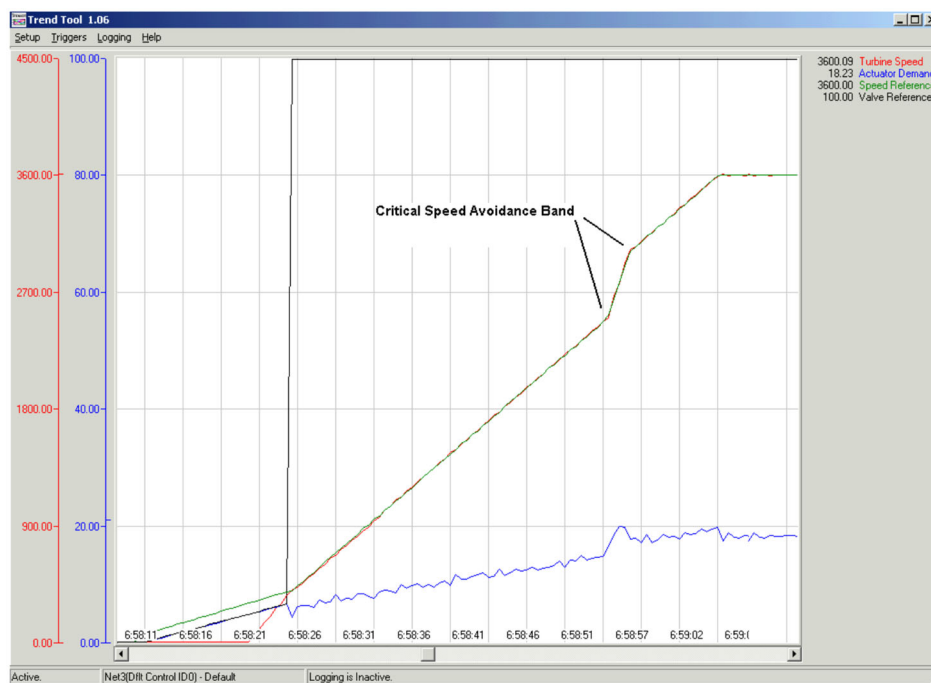

Figure 4-5. Critical Speed Avoidance Band
- In many turbines, it is desirable to avoid certain speeds or speed ranges (or pass through them as quickly as possible) due to excessive turbine vibration or other factors. During programming, one critical speed avoidance band may be selected. This band may be any speed range that is less than the minimum governor speed setting. Within a critical speed range, the 2301E-ST moves the speed setpoint at the critical speed rate programmed and does not allow the speed setpoint to stop within the critical speed avoidance band. If the turbine is accelerating through a critical avoidance band and excessively high vibrations are experienced, selecting the speed setpoint lower command will bring the unit back to the lower limit of the band. Refer to Figure 4-5 for an example of the critical speed avoidance.